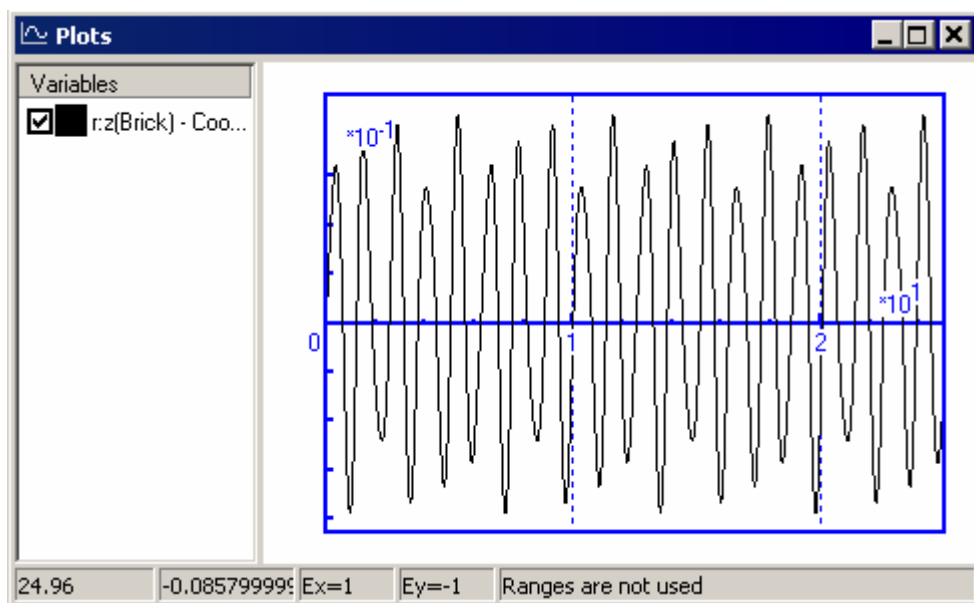

Figure 2.13. Forced oscillation ($\omega = 8$ rad/s)
4. Run integration. Now you can see that the body **Top** also moves. The time history of the vertical position of the **Brick** is given in the Fig. 2.13.